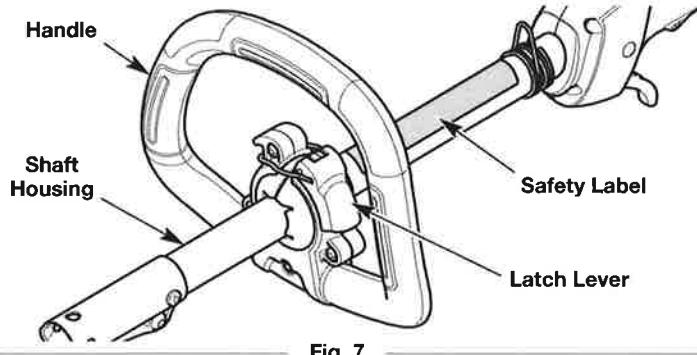

Fig. 7
- Hold the unit in the operating position (Fig. 15). Move the handle up or down the shaft housing to a comfortable location (Fig. 7). Make sure the handle is positioned beyond the end of the safety label (Fig. 7).
- Flip the latch lever up to loosen the handle (Fig. 7).